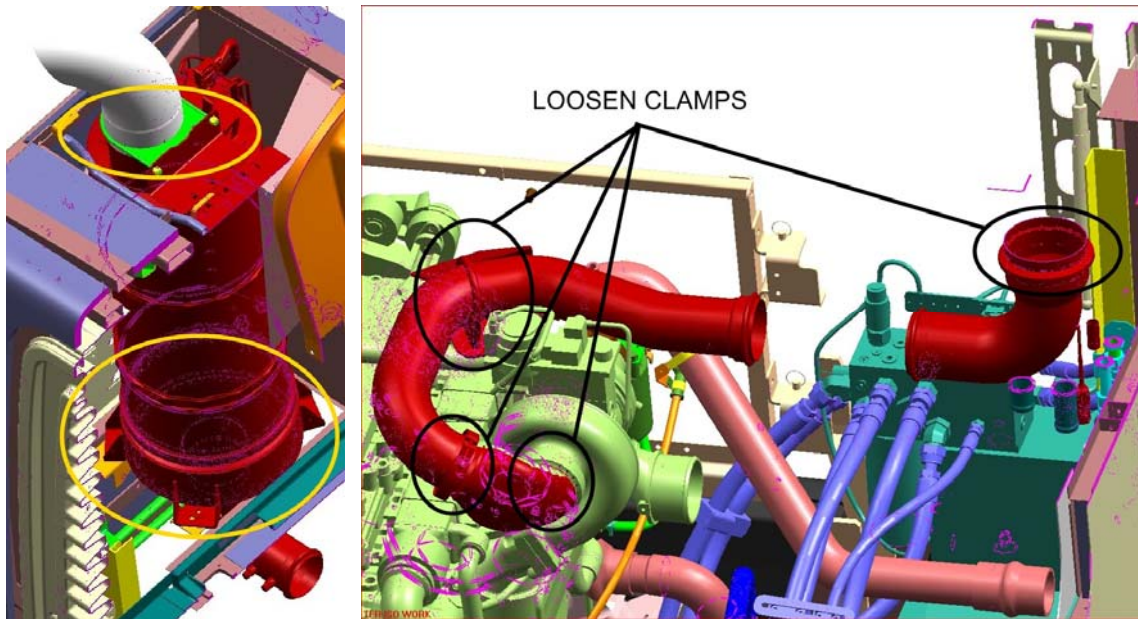

Fig. 1
- a. Upper muffler clamp and 3x lower muffler bolts (Fig 1)